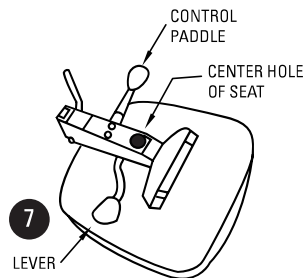

FIGURE 2.
- 5) Align the center hole of the underside of the seat assembly (3) with the top of the pneumatic cylinder (2) and lightly push down. Kneel on the seat to hold it together. This will press the base, pneumatic cylinder and seat together. (Underside of the seat is shown in Figure 2)
- 8) Adjust the seat back to the desired angle using the control lever located on the side of the seat. You can adjust the height of the back by lifting the back release up. Push the back release(8) down to lock the bar in place.
- 9) To raise the height of your chair, take your weight off of the chair and pull up on the lever (7) on the underside of the seat and adjust.
- 10) To lower the height of your chair you must be seated with your weight on the seat, lift up on lever (7).